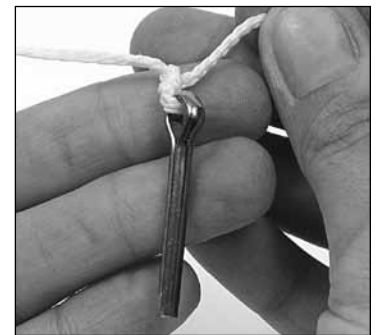

Figure 28
5. Tie a length of twine at least 2' long to the release pin and knot it (Figure 28). If desired, secure the knot with a dab of CA glue. On the other end, tie a 2" to 3" loop to use as a pull handle.